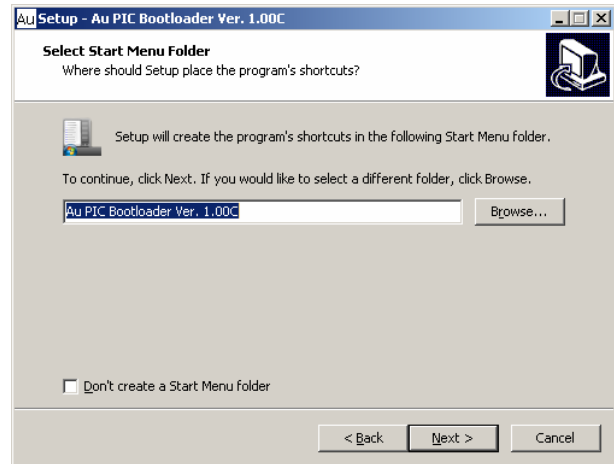

Figure C-5
5. “Select Start Menu Folder” window will show up. Use default setting “AU PIC Boot-loader”, then click “next” (Figure C-5).